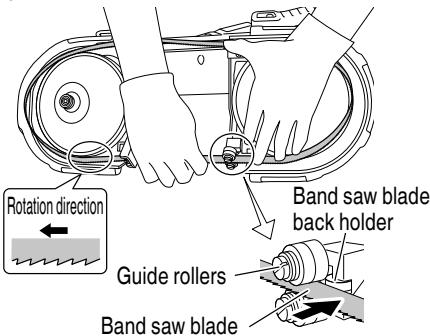

Fig. 17
- (2) Being careful of the direction of revolution and the facing of the band saw blade (see figure), place the band saw blade in Guide roller, installing the band saw blade until it comes into contact with the Band saw blade back ball bearing support.
(3) Holding the band saw blade in place so it doesn't come loose, seat the band saw blade in Blade pulley. (Fig. 17)